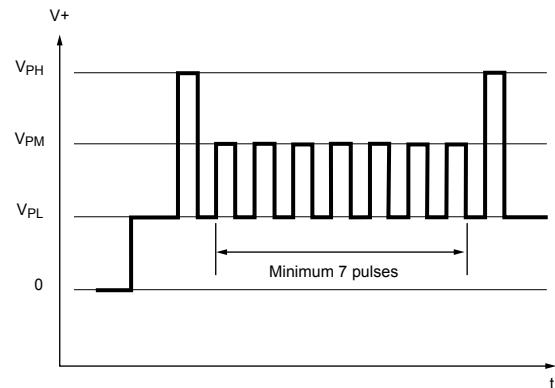

Figure 4. Addressing mode enable pulse sequence
**Enabling Addressing Mode.** The first segment of code is a keying sequence used to enable the bitfield addressing mode. As shown in figure 4, this segment consists of one short  $V_{PH}$  pulse, seven or more  $V_{PM}$  pulses, and one short  $V_{PH}$  pulse, with no supply interruptions. This sequence is designed to prevent the device from being programmed accidentally, such as by noise on the supply line.